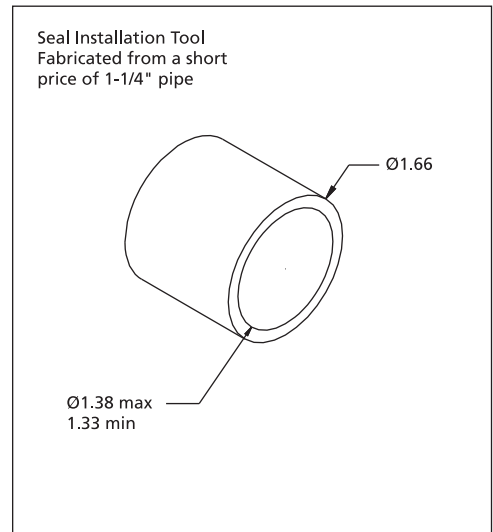

Figure 4 – Seal Installation Tool
- b. Replace the o-ring (Ref. No. 12) inside the cavity. Using seal installation tool (See Figure 4), press in new mechanical seal being careful not to scratch the polished carbon face.